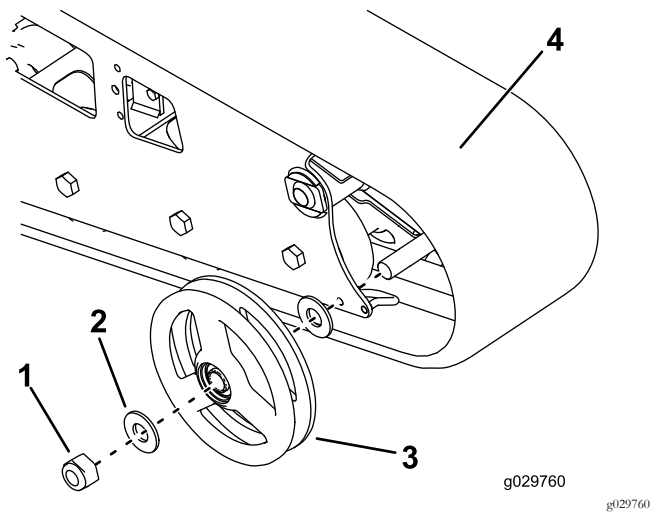

Figure 62
7. Remove the nut securing the outer front wheel and remove the wheel (Figure 62).
8. Remove the track (Figure 62).
9. Pull the 2 large washers out of the outer wheels, 1 on each side of each wheel (Figure 62).
12. Install the new track. (Figure 62).
13. Install the outer front wheel and secure it with the nut removed previously (Figure 62).